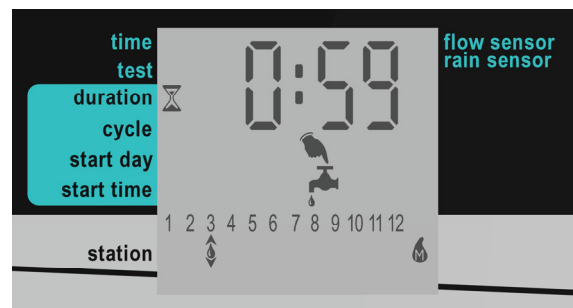

Figure 14: Test Sequence Screen
2. Press and hold **+** until the Test Sequence screen is displayed (Figure 14). The controller automatically begins operating the master station and each of the stations in sequence, for 60 seconds each. The currently operating station is marked with the **◆** icon, and the screen displays the number of seconds remaining for that station's operation test.